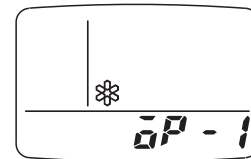

Fig. 10
- d) ❄️ appears with “oP-1” blinking in the remote controller clock display area. (Fig. 10)